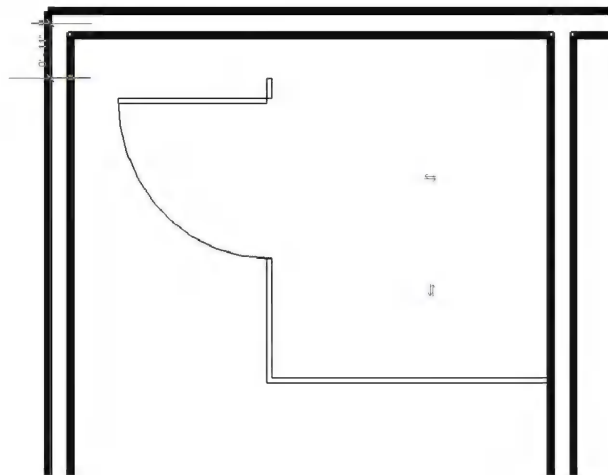

FIGURE 11-1.2 Accessible Toilet stall
6. **Place** the toilet stall as shown and then move into place using the **Move** tool and your snaps or the *Align* tool (Figure 11-1.2).